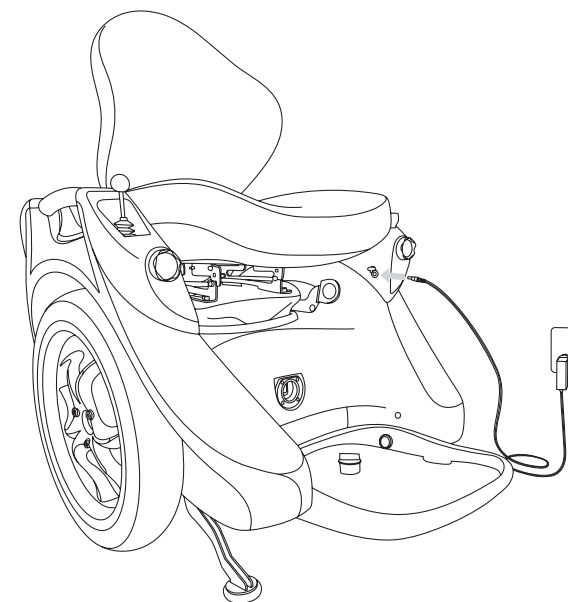

Figure 34: Charging your Omeo's Auxiliary Batteries.
6. The Charge Indicator Lights on the Omeo's Display Panel should illuminate green to confirm that the Batteries are charging (*Figure 34: Indicator lights showing charging Batteries, Pg. 69*).
2. Open the Auxiliary Battery Charge Port on the front of the Omeo (see **Figure 34**) and verify that the Auxiliary Battery Charge Port, along with the Auxiliary Battery Charger and AC Power outlet, are dry, clean, and free of any debris